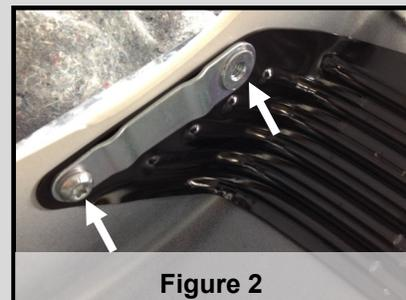

Figure 2
3. Once the fender is off the bike, remove the 4 bolts to the inner fender support, remove the support which will allow removal of the stock reflector and bracket. (See Figures 2 & 3)